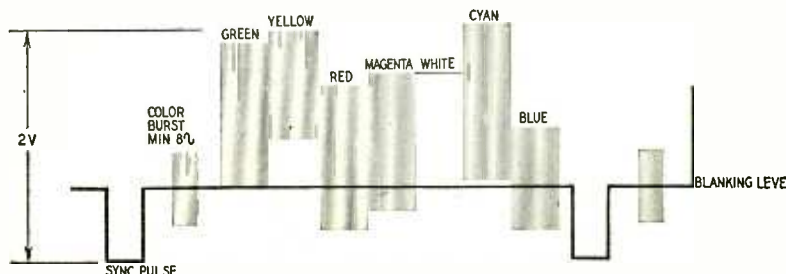

Fig. 1—Video waveform from an NTSC type of color bar generator which provides 100% saturated colors. This is the waveform of the simultaneous bar display.
4. The NTSC type of color bar generator—which provides 100% saturated true colors, with provision for saturation control and signal selection—is the most useful generator for general color service work. This type is expensive, but it also provides a large variety of basic color signals, either separately or in combination. A simultaneous display of the primary and complementary colors with white and black is useful in overall receiver checks as well as for checking delay lines, matrixing, color-subcarrier traps, cross-talk, burst gating and chroma detector operation (see Fig. 1). Individual color-difference signals with accurate phases are also provided, such as I, Q, (R - Y), (B - Y), and others. The (R - Y) and (B - Y) signals are usually available in combination, as well as separately. The bar widths are made unequal to provide identification during